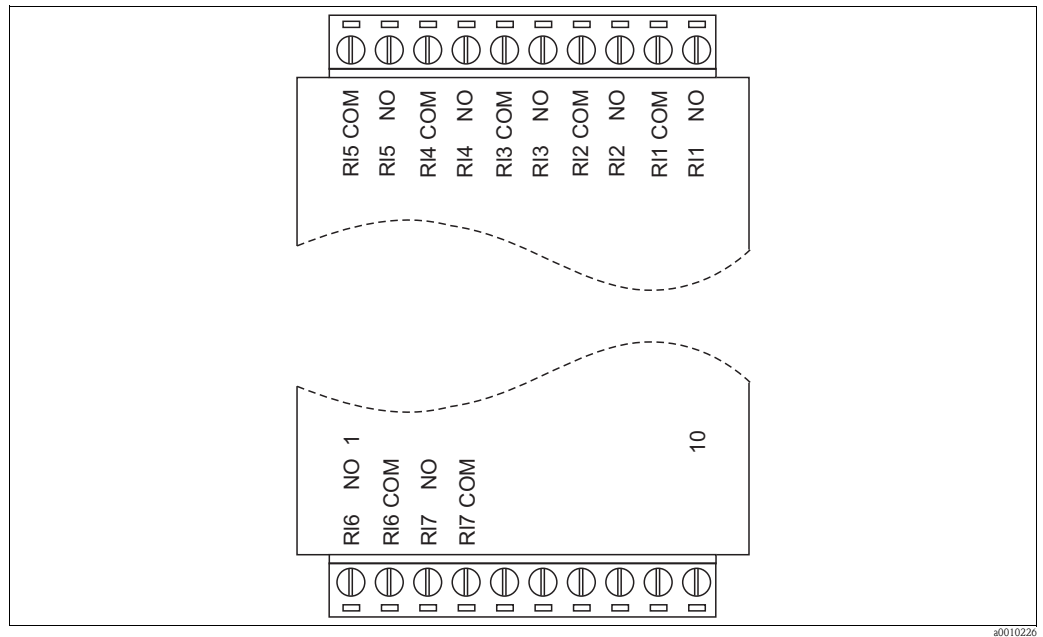

Fig. 14: Connecting the relay module
3. Attach the connecting cable to the relay module (s. Abb. 14).